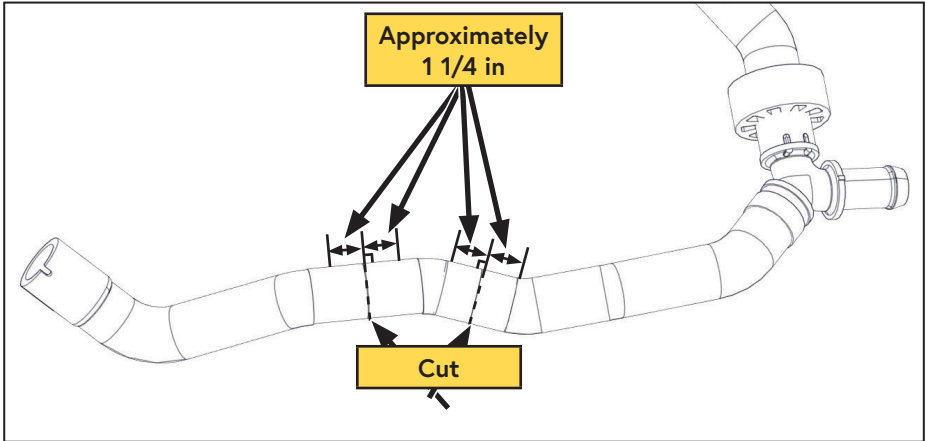

Figure 5 — Modify lower degas hose
- Leaving the anti abrasion sheath in place, cut the hose along the straight section indicated. Each section of hose should provide approximately 1 1/4 in for the barbed fittings to be inserted (Figure 5).